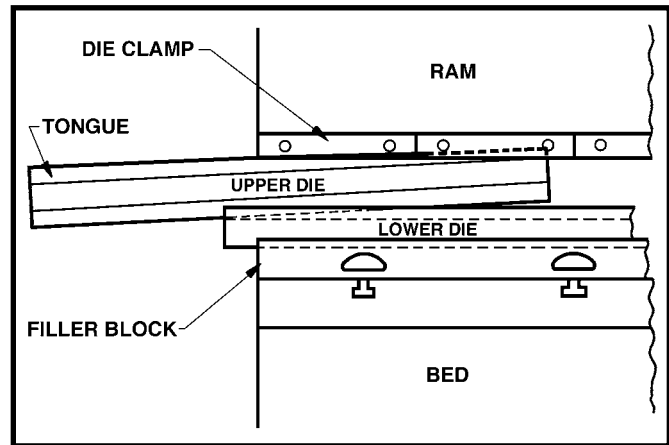

FIGURE 5-6 Die Positioning
15. Rest the upper die on extended portion of lower die. Make sure tongue of upper die is in the ram nose slot and that the upper die is trapped by the lower die and ram die slot. See Figure 5-6. Then slide upper die into lengthwise position with the lower die. Slide the set of dies into a